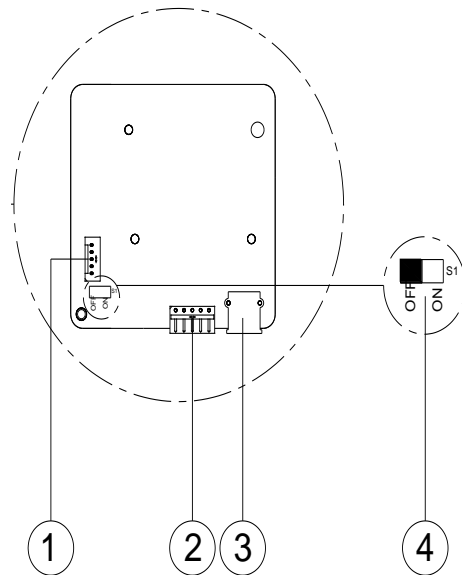
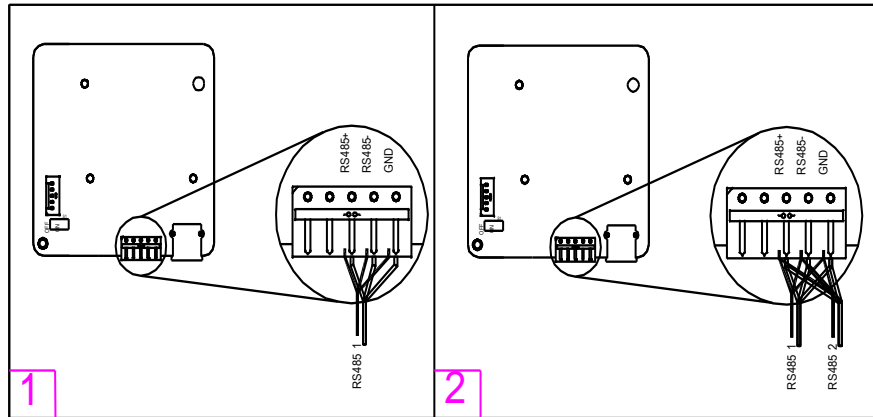

Figure 3-40 Communication Connection Interfaces
Figure 3-41 RS485 Connection of Standard wirebox
RS485 communication cables are connected via the 5-pin connector to the port labeled (2) in Figure 3-40. When creating a network of multiple inverters, the cables are terminated to the same 5-pin connector, double seating the conductors. Figure 3-41 shows a single inverter communication connection in (1) and a network configuration in (2).